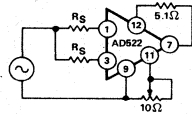

Figure 2. Optional CMR Trim
these errors can not be corrected by calibration. Common mode rejection of the AD522 is active laser-trimmed to the limits of thin-film resistor stability. Further trimming could improve CMR on a short term basis, but regular readjustment would be necessary to maintain this improvement (see Figure 2). In this example, untrimmed CMR and noise cause a total error of  $\pm 0.0065\%$  of full scale and are the major contributors to resolution error.
**CMR Trim:** A short-term CMR improvement of up to  $10\text{dB}$  at low gains can be realized with the circuit of Figure 2. Apply a low-frequency  $20/G$  volt peak-to-peak input signal to both inputs through their equivalent source resistances and trim the pot for an ac output null.